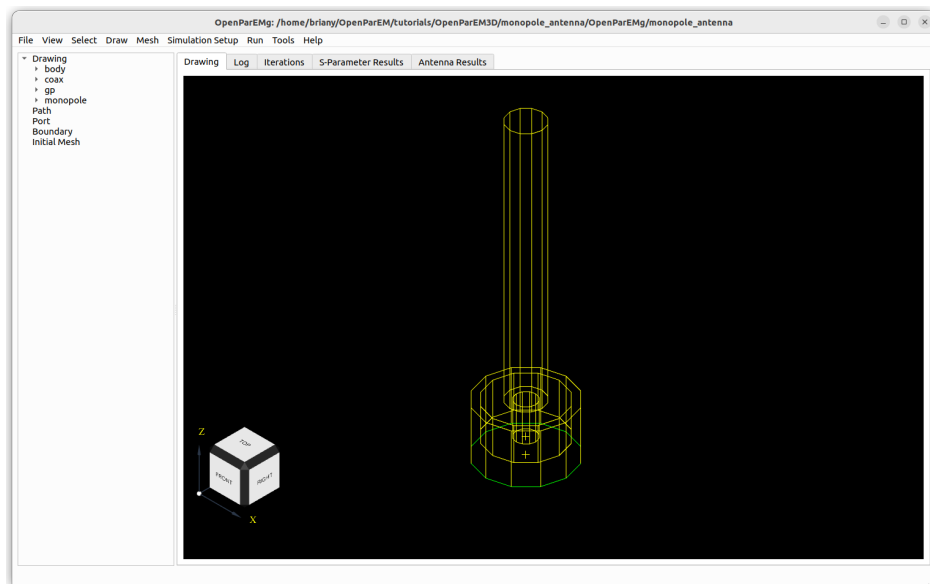

Figure 15: Zoom of the coax feed and monopole antenna.
- A zoom of the coax and monopole antenna should look like that of Fig. 15.